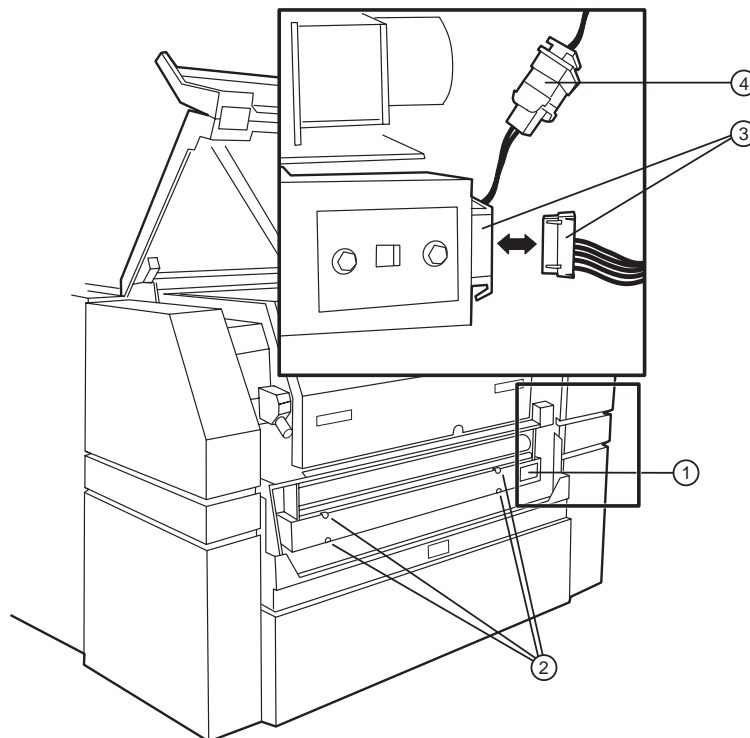

Figure 4-8 Removing the outer take-up drive assembly.
6. Disconnect the nip solenoid connector. Refer to Figure 4-8.
7. Disconnect the cutter interlock switch cable. Refer to Figure 4-8.
8. While holding the nip assembly with one hand, use a flathead screwdriver to loosen the four (4) screws on the front of the assembly. Refer to Figure 4-8.